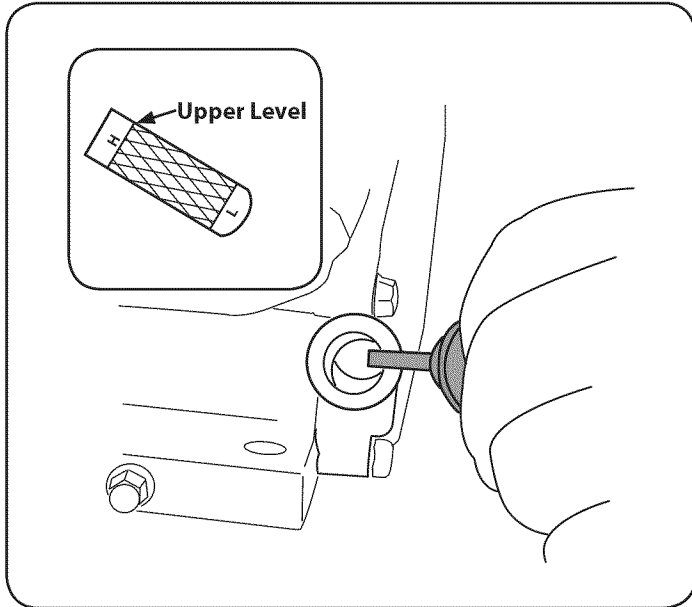

Figure 3
2. Remove the oil filler cap/dipstick and wipe the dipstick clean. See Figure 3.